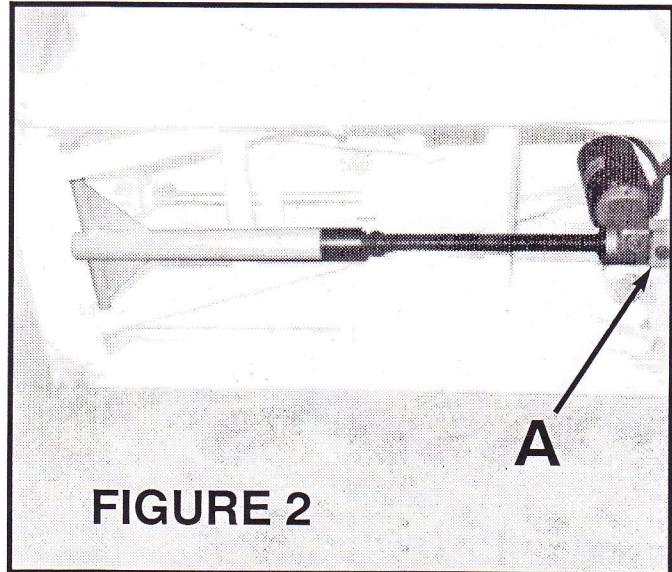

FIGURE 2
4. Unbolt actuator using a 1/4" allen wrench and the 9/16" box wrench. (see "A", FIGURE 2)